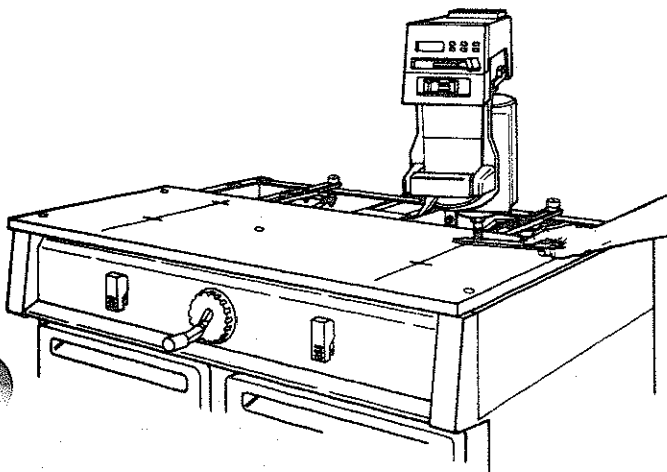

Fig. 100
17. Place the handle end of the *arbor wrench* over this point and lower the *arm* until the *arbor shaft* is just touching the *wrench*. The *wrench* should slide back and forth with slight contact. (Figure 100)